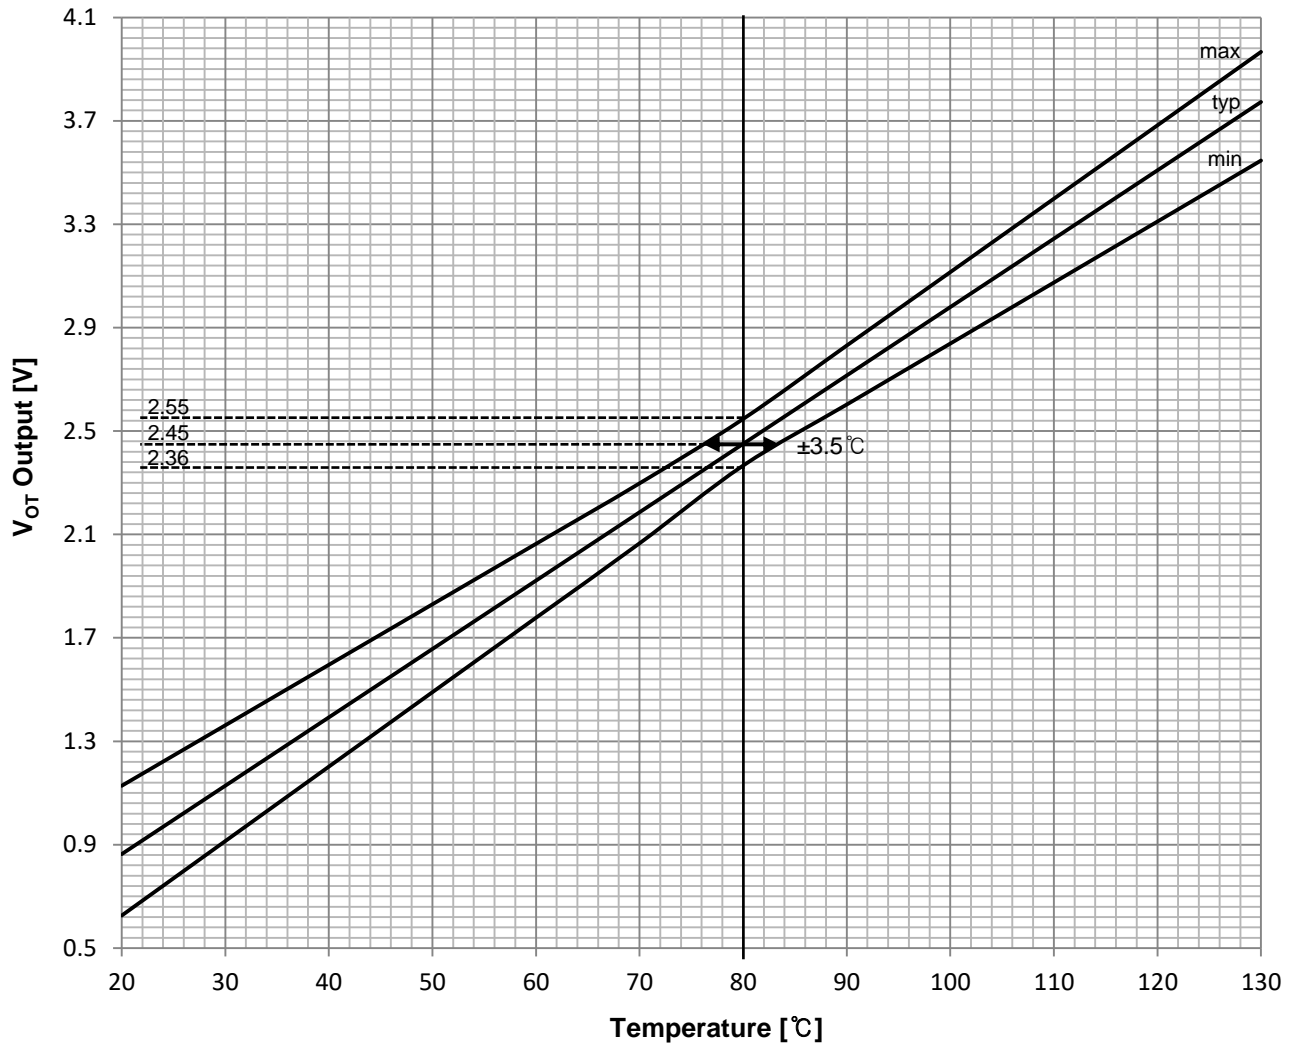

Figure 3. Temperature of LVIC vs.  $V_{OT}$  Output Characteristics
- The IPM does not shutdown IGBTs and output fault signal automatically when temperature rises excessively. When temperature exceeds the protective level that the user defined, the controller (MCU) should stop the IPM. Temperature of LVIC vs. VOT output characteristics is described in Figure 3.